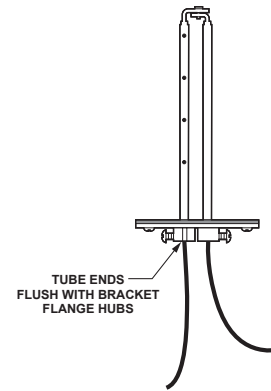

Figure 3. Mounting Flange and Sensor Tubes.
3. Insert the sensor tubes into the mounting flange hubs (see Figure 3). Adjust the sensor tubes so that the tube ends are flush with the flange hubs. Gently tighten the set screws against the sensor tubes. Do not crush or deform the sensor tube ends.